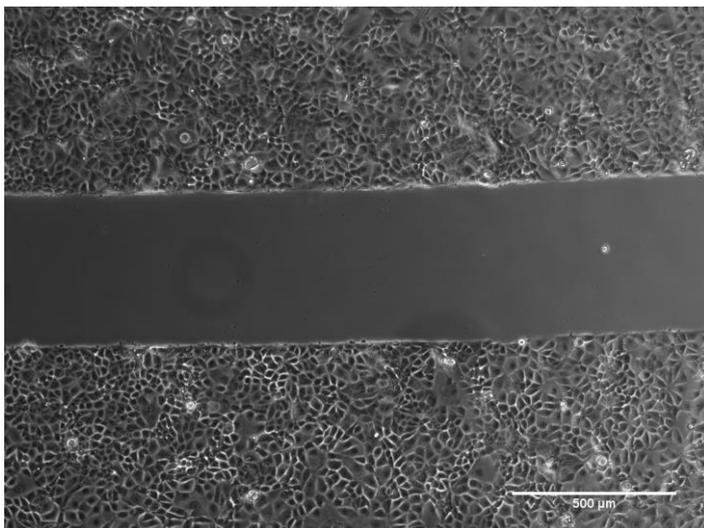

Figure 3 Cell-free gap created by the ibidi Culture-Insert 2 Well.
2. Gently remove the Culture-Insert 2 Well with sterile tweezers. For removing the Insert grab one corner as shown in Figure 3.